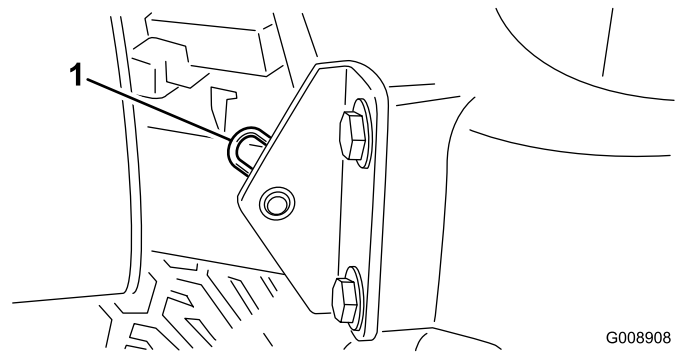

Figure 27
2. Remove the hairpin cotter securing the hood pivot to the mounting brackets (Figure 27).
**Note:** The flush fittings on the rollers (Figure 27) require a grease gun nozzle adapter. Order Toro Part No. 107-1998 from your Authorized Toro Distributor.